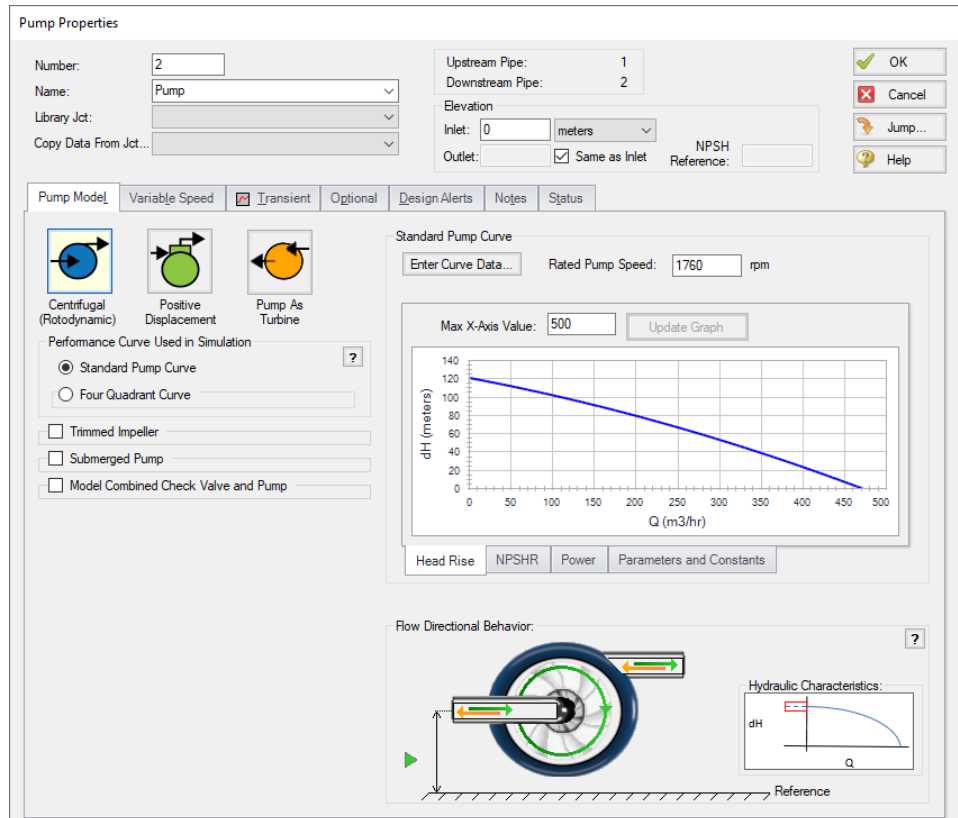

Figure 2: Pump J2 Properties Input
- b. Pump Model tab (Figure 2)